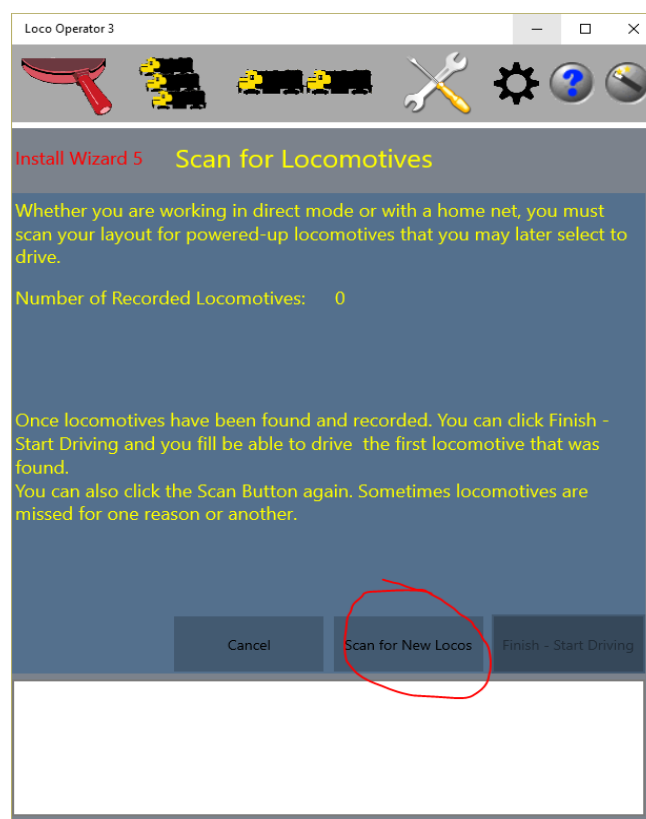

Figure 44 Install Wizard Page 5, Scan for Locomotives
- (6) Now you see Install Wizard 5 as Figure 44. By this time, your Wi-Fi Router should have allocated IP addresses to your locomotives. Click the Scan for New Locos button. And Continue on the pop-up. Your computer will connect to your Home Net and test each IP Address in your specified range to find modules.
- (7) Once one or more module has been found, set the decoder models again, click Done and click the Finish-Start Driving button and you can perform the same tests as you did in Direct Mode. The roster is already stored in your WDMI-27 and does not need to be re-entered.